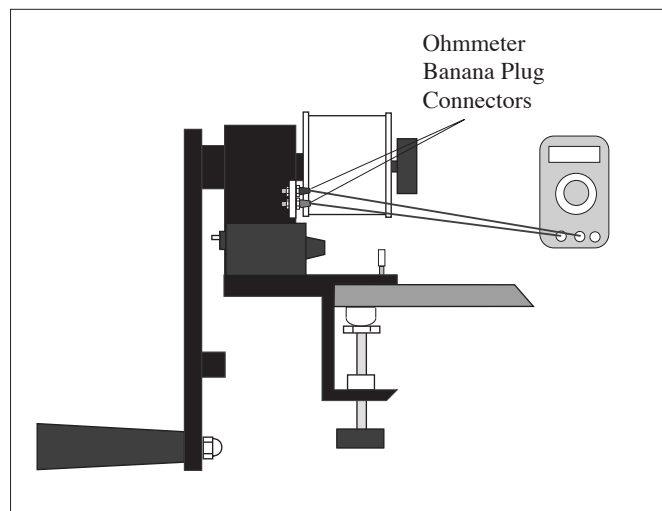

Figure 8 Hook up the Ohmmeter
- ③ While the cylinder is cooling, plan the desired temperature variation of the experiment. Ideally, the temperature variation of the cylinder should be from 7-9 C° below room temperature to the same amount above room temperature. Therefore, measure and record the room temperature, and then determine and record the initial and final temperatures you wish the cylinder to reach during the experiment. (You can record your data on the data sheet provided at the end of this section.)
- ④ Using the table of Resistance versus Temperature for the thermistor, determine the resistance value which will correspond to each of your recorded temperatures. (A table covering most temperature ranges is listed on the apparatus. A more complete table can be found near the end of this manual.) Also determine the resistance measurement which corresponds to 1 C° below the final temperature. You will want to start cranking more slowly as the temperature approaches this point, so that the final, equilibrium temperature will be close to your chosen final temperature.
- ⑤ When the cylinder is sufficiently cool, slide it back on the crank shaft. Be sure that the copper plated board is facing toward the crank. Also make sure that the pins on the drive shaft fit into the slots on the plastic ring on the cylinder, then replace the black knob and tighten securely.
- ⑥ Plug the leads of the ohmmeter into the banana plug connectors as shown in Figure 8. Set the ohmmeter to a range that is appropriate to the thermistor resistances that correspond to your chosen temperature range.